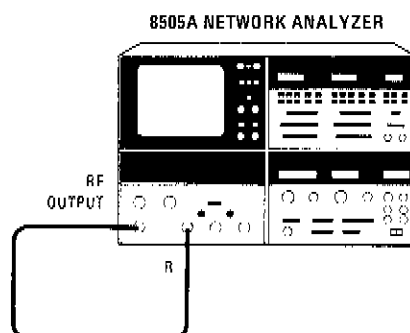
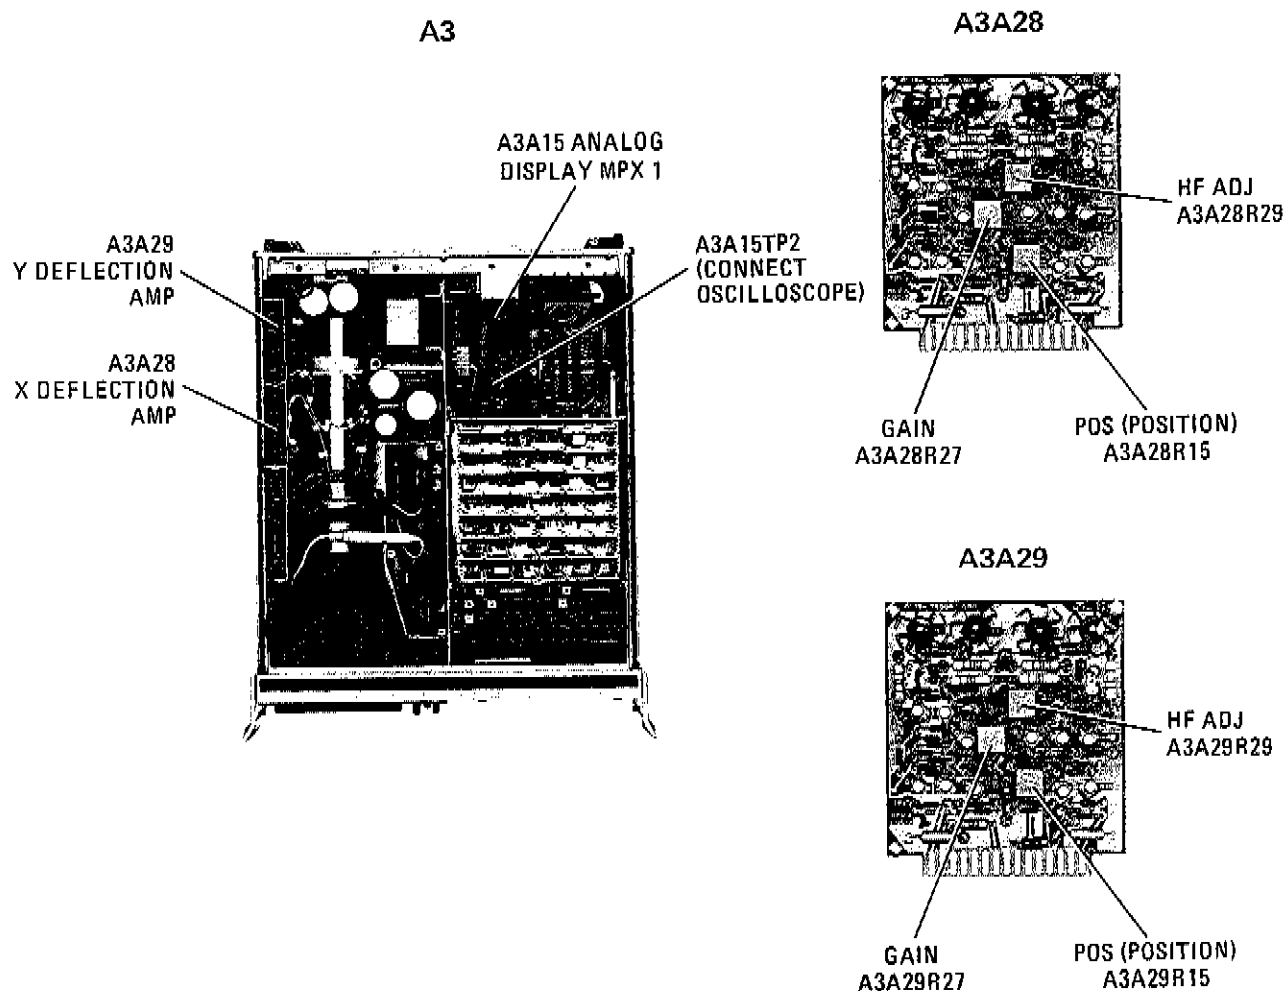

Figure A5-22. Display Multiplex and Deflection Amplifiers Test Setup
Figure A5-23. Adjustment Locations for X and Y Deflection Amps
- b. Connect equipment as shown in Figure A5-22.
- b. Connect equipment as shown in Figure A5-22. Put A3A28 X-Deflection Amplifier on extender board (See Figure A5-23).
- f. Set CH1 REF LINE POSN control on Display panel for 0.000 Vdc  $\pm$  0.005 Vdc indication on DVM and adjust "POS" control A3A29R15 to place CRT trace on center graticule line. (See Figure A5-23.)